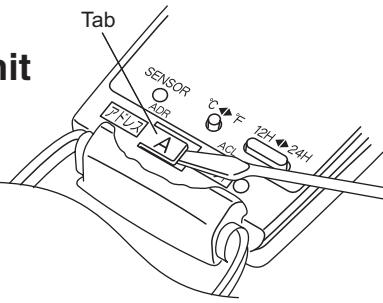
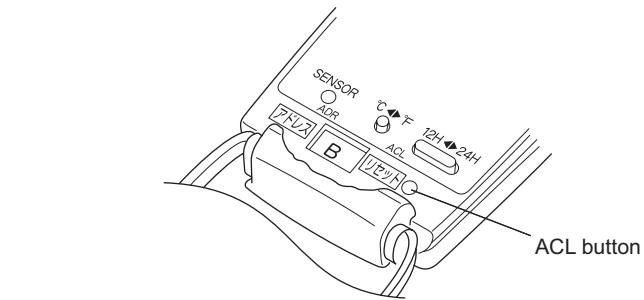

Fig. 1
Fig. 2
- (1) Switch on the power source.
- (2) Break the address-setting tab marked "A" on the second remote controller to change the address (Fig. 1). When the tab is removed, the address is automatically set to B (Fig. 2).
- (3) Press and hold the remote controller HIGH POWER button and 1 HR TIMER button. At the same time, press the ACL (reset) button. Use a thin object such as the tip of a pen to press the ACL button. When this has been done, "oP-1" (test run) appears, blinking, in the remote controller clock display area.